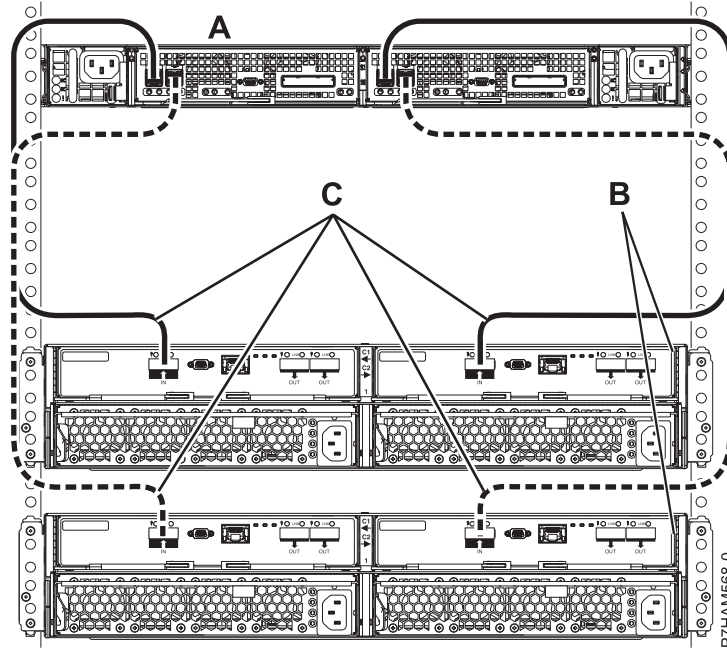

Figure 40. Mode 1 connection of two 58/87 disk drive enclosures by using EX cables to a PCIe storage enclosure
14. Perform the mode 1 connection of two 58/87 disk drive enclosures (**B**) by using EX cables (**C**) to a PCIe storage enclosure with support for SAS disk drawers (**A**) as shown in Figure 40.
- Both EX cables (**C**) from the same 58/87 disk drive enclosure must be attached to the same numbered port on the PCIe storage enclosure as shown in Figure 40.